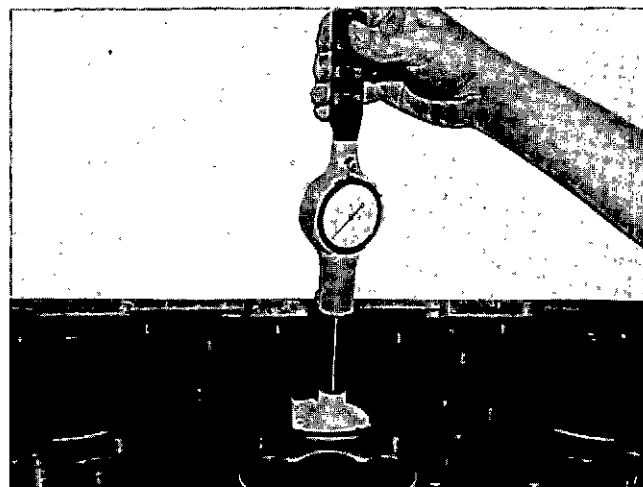

Fig. 14-1-13, V414116. Checking liner out-of-round without ST-1005
f. With liner installed, check for out-of-roundness as described under "Install Liner in Block" following and shown in Fig. 14-1-13. See limits in Step 4 of "Install Liner in Block."